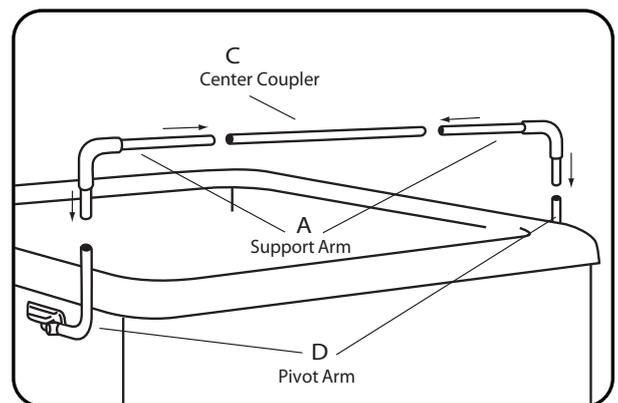

Figure 3
Insert the long end of the Support Arms (A) into the Center Coupler (C) then slide the short ends of the Support Arms into the Pivot Arms (D) (see 'Figure 3'). We will refer to connected Support Arms and Center Coupler bar as the 'lifter bar' for the next step.